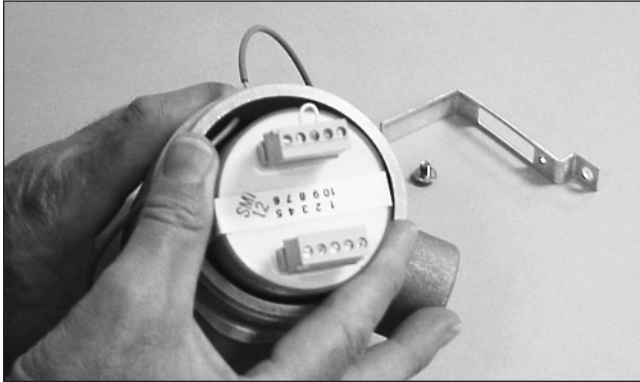

Figure 6
3. Disconnect output wiring and remove preamp from junction box, Figure 6.